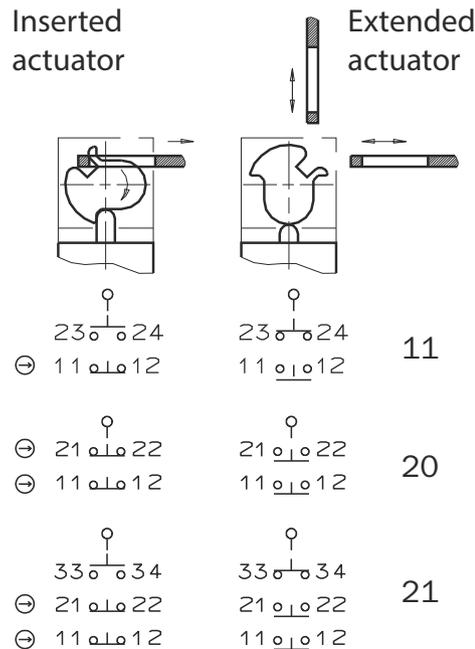

Figure 5: Switching elements and switching functions for variants with M16 cable entry
- ▶ Contact assignments see figure 5, page 10.